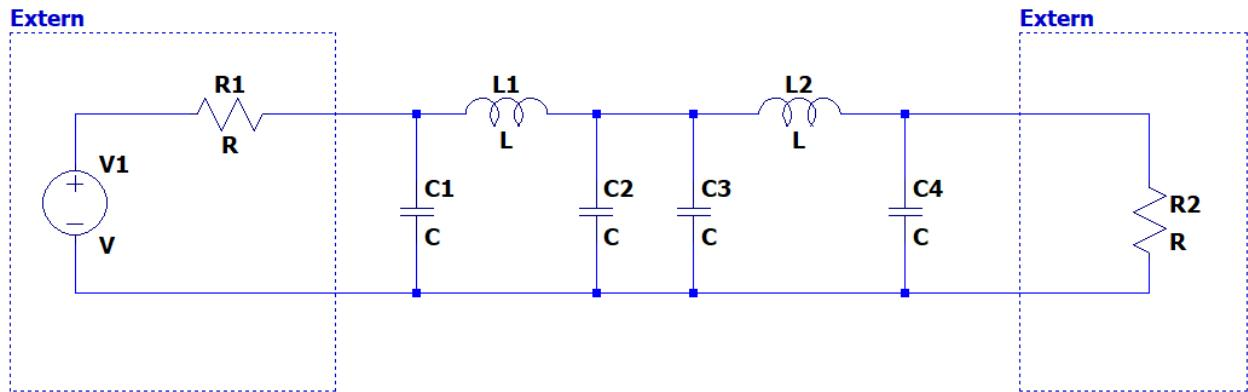
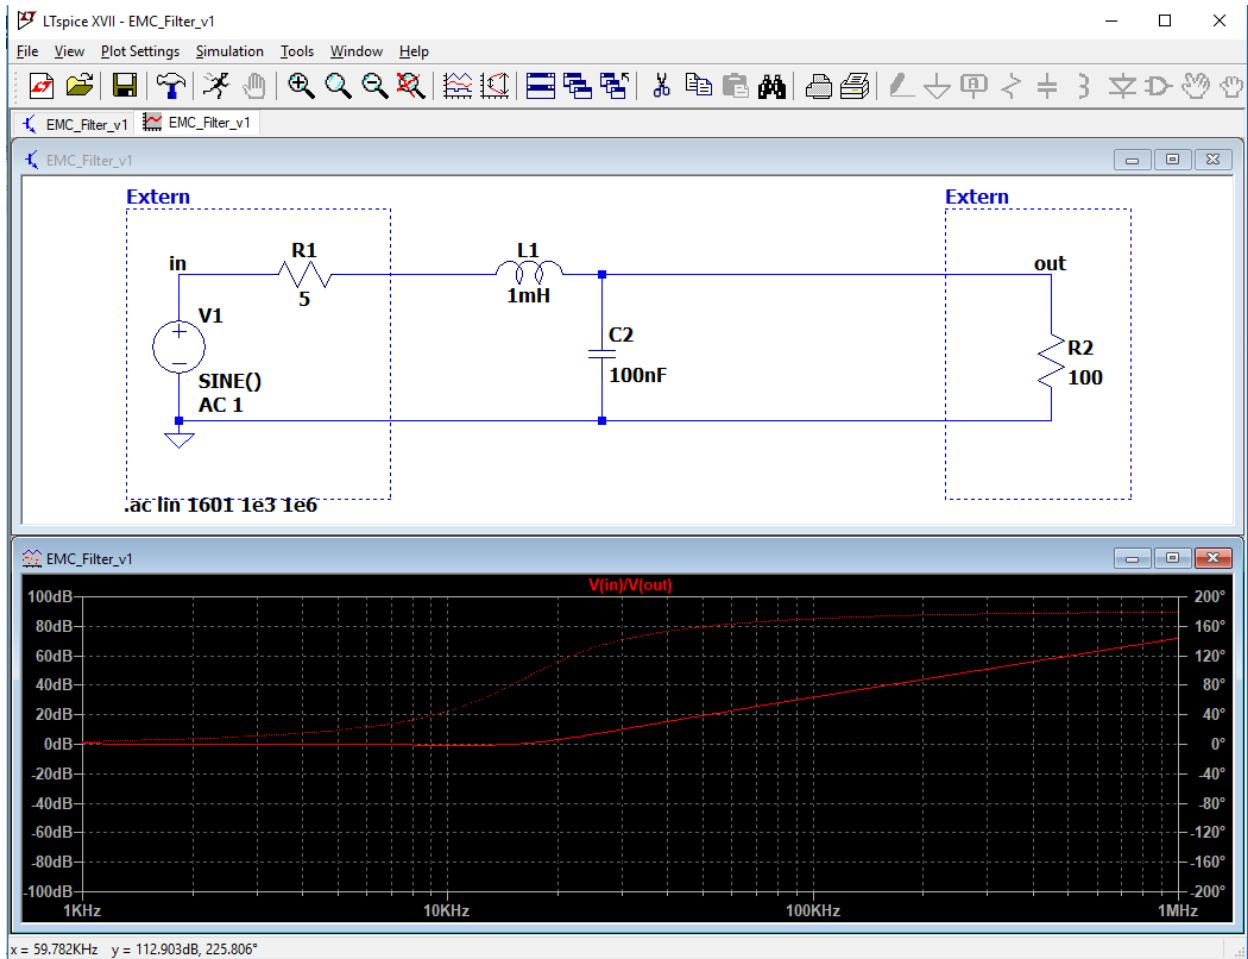

Figure 47: Altium LTSpice schematic generic EMC_Filter.
Figure 48: LTSpice EMC Filter - 1th order LC Filter [Adamczyk2017].
27. The goal is now to build a basic EMC Filter board according to the following LTSpice schematic shown in Figure 47. Figure 48 shows how the LTSpice model is used to simulate a 1_{th} order LC filter which builds the basis for a filter design that can be validated with your designed hardware. As you may notice there are no footprints in neither of one of the two LTSpice figures or chosen components.
Hint: If your workstation has only one screen, it is helpful to print the circuit shown in Figure 47 so you can make nodes on paper which helps extremely to make design decisions and you can spare a second screen (the author of this document prints most of the schematics in paper form).